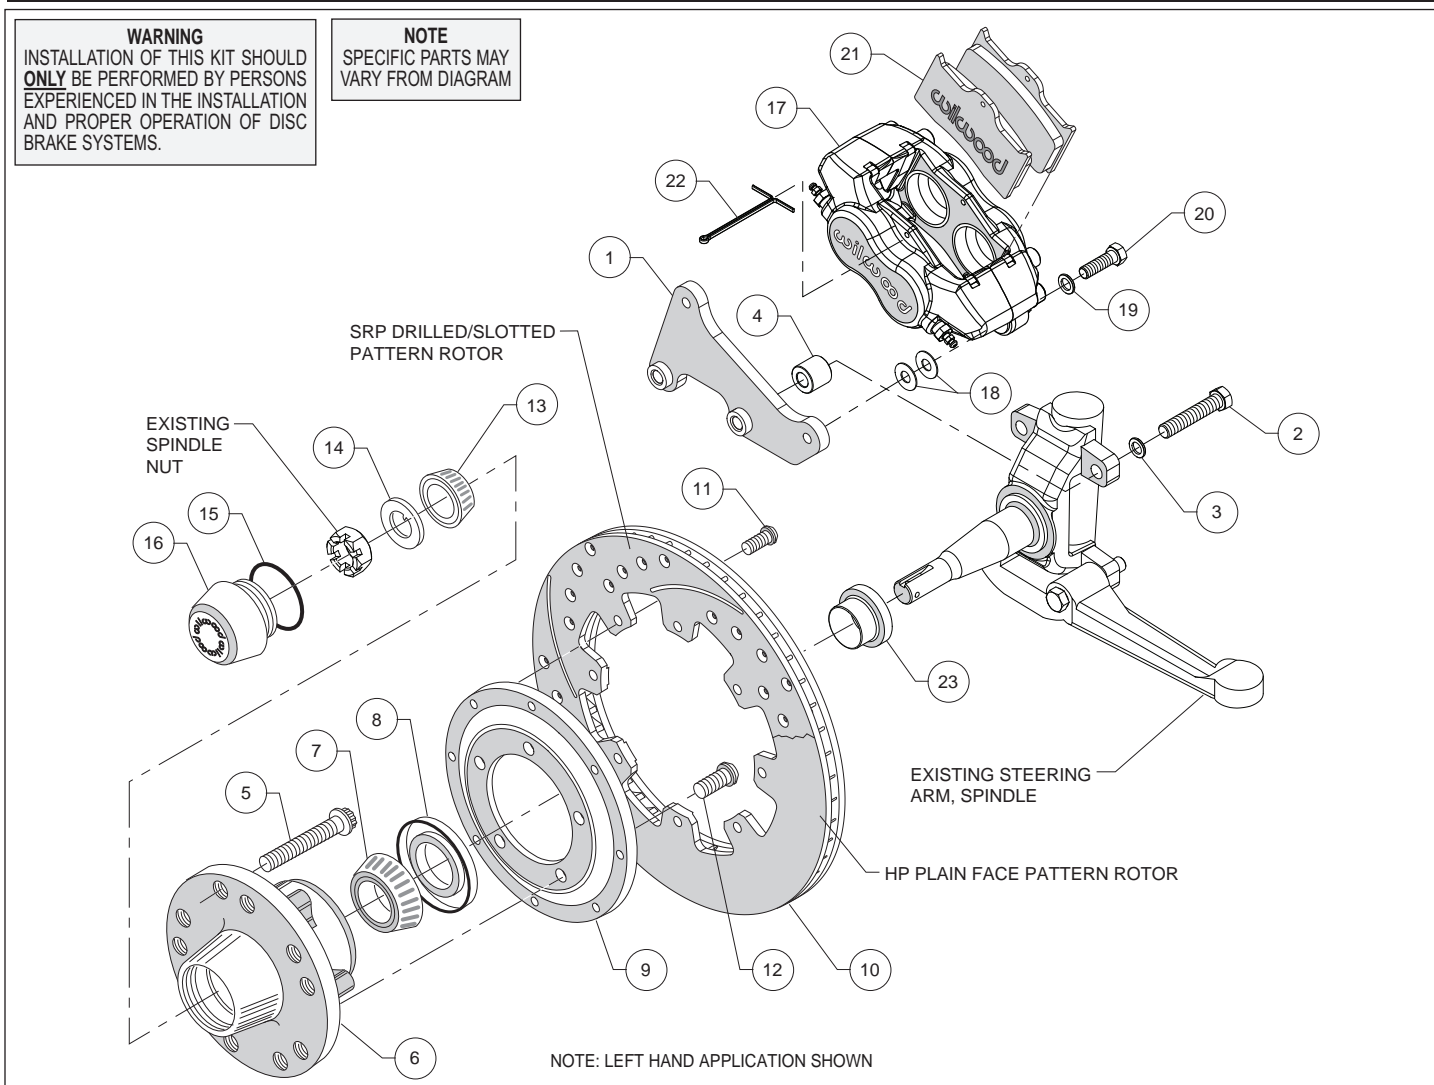
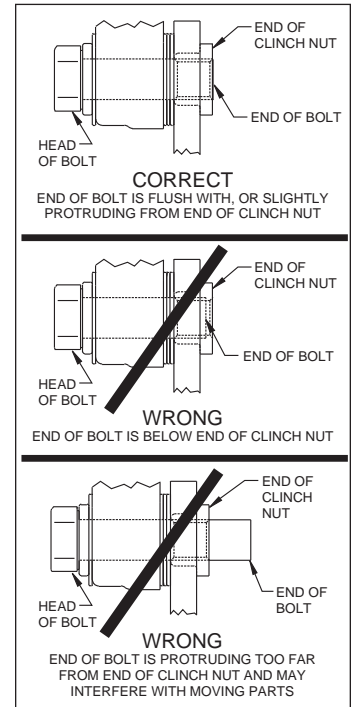

Figure 1. Typical Installation Configuration
Figure 3. Clinch Nut Engagement Diagram
**Assembly Instructions** (numbers in parenthesis refer to the parts list and Figure 1 on the preceding pages): **CAUTION:** All mounting bolts must fully engage clinch nuts. Be sure to check that all bolts are either flush or protruding through flanged side of clinch nut after shimming, Figure 3.
- Orient the caliper mount bracket (1) as shown in Figure 1, and install using bolts (2) and washers (3). Place a spacer (4) on each bolt between the bracket and caliper mounting bosses, Figure 1. Ensure that the flanged heads of the clinch nuts in the bracket are facing outboard. Temporarily tighten the mounting bolts. **NOTE:** The bracket must fit squarely against the mount bosses on the upright. Inspect for interference from casting irregularities, machining ridges, burrs, etc. Remove bolts one at a time, apply red *Loctite*® 271 to the threads and torque to 70 ft-lb.
- Slide the inner bearing spacer (23) onto the spindle with the larger O.D. facing inward, Figure 1 and Photo 1.
- Install wheel studs (5) into the hub (6), Photo 2. Torque to 77 ft-lb. **NOTE:** There are two five lug patterns in the hub (5 x 4.75 and 5 x 5.00). Ensure the correct hub stud pattern is being used to fit the wheel application.
- Pack the large inner bearing cone (7) with high temperature disc brake bearing grease (available from your local auto parts store) and install into the backside of the hub (6), Photo 3.
- Install the grease seal (8) by pressing into the backside of the hub (6), flush with the end of the hub, Photo 3.
- Orient the rotor (10) and the rotor adapter (9) as shown in Figure 1 and Photo 4. Attach the rotor to the adapter using bolts (11). Using an alternating sequence, apply red *Loctite*® 271 to the threads, and torque to 25 ft-lb.
- Mount the adapter/rotor assembly (9/10) to the hub (6) using bolts (12), as shown in Figure 1 and Photo 5. Using an alternating sequence, apply red *Loctite*® 271 to the threads, and torque to 45 ft-lb.
- Screw dust cap (16) into hub (6), Photo 7. Friction created by the o-ring (15) on the dust cap keeps it from unscrewing. **NOTE:** The O.D. of the existing OEM spindle washer may be larger than the I.D. of the dust cap not allowing it to seat against the hub face. Therefore, use the spindle washer (14) supplied with the kit instead of the OEM washer.
- NOTE:** Please reference the caution statement at the beginning of the assembly instructions. Mount the caliper (17) onto the caliper mounting bracket (1) using bolts (20) and washers (19), as shown in Figure 1. Initially place two .035" thick shims (18) on each bolt between the caliper and the bracket, Photo 8. Temporarily tighten the mounting bolts and view the rotor (10) through the top opening of the caliper. The rotor should be centered in the caliper, Photo 9. If not, adjust by adding or subtracting shims between the bracket and the caliper. Always use the same amount of shims on each of the two mounting bolts. **NOTE:** The end of each bolt must be flush with or slightly protruding from the head of the clinch nut, as shown in Figure 3. If necessary place spare shims between washer (18) and caliper mounting ear to achieve the proper clinch nut engagement. Later, after the calipers are bled, the caliper mounts bolts will be secured using red *Loctite*® 271.